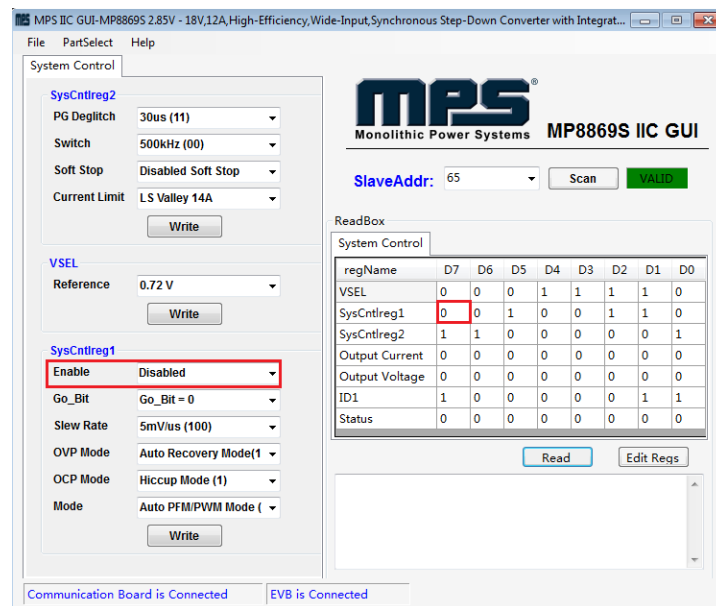

Figure 10: Refer to Datasheet to Translate 0's and 1's
- Click the **Read All** button to update values. The changed information of the item will appear on the right side (see Figure 10).